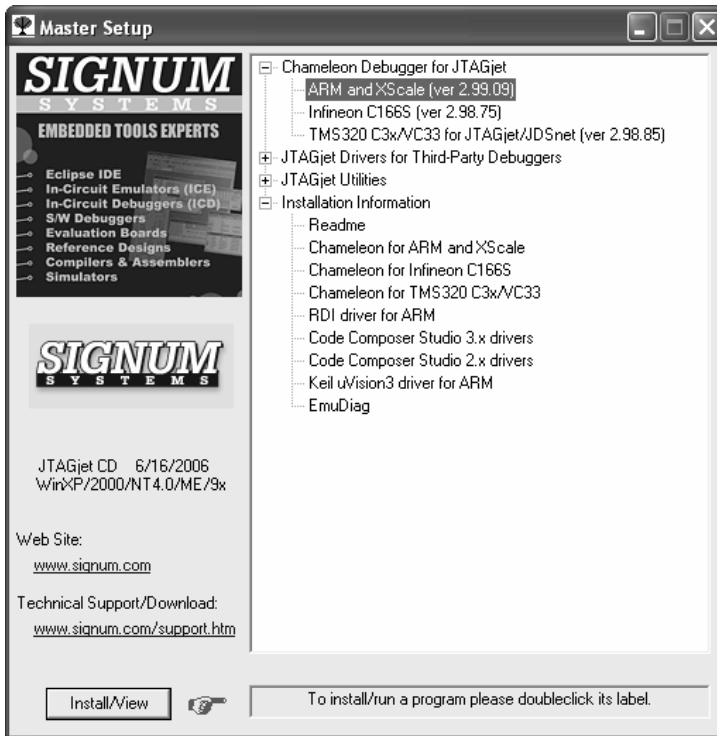

FIGURE 1 Chameleon Master Setup window.
1. Insert the JTAGjet CD into your CD drive. From the Master Setup window, select Chameleon Debugger, and double-click ARM and XScale, as shown in Figure 1. (This selection includes the TI OMAP processor family.)